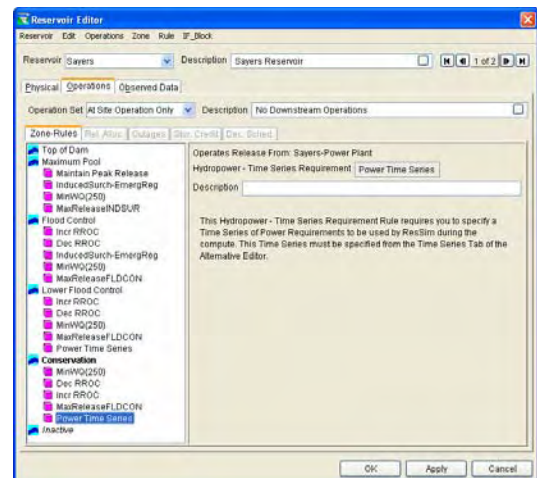

Figure 11.35 Hydropower – Time Series Requirement Rule Editor
2. Highlight the appropriate rule in the operations tree to access the **Hydropower – Time Series Requirement** rule editor (Figure 11.35). The name and description of the rule will appear in the **Hydropower – Time Series Requirement** rule and **Description** fields.